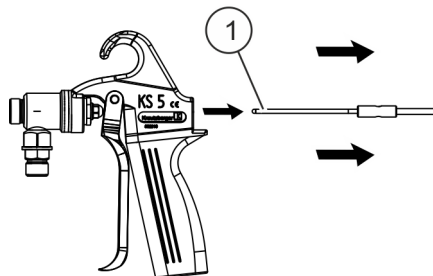

Fig. 11: Pull out complete valve needle
6. ➔ Fully pull out complete valve needle (Fig. 11/1).